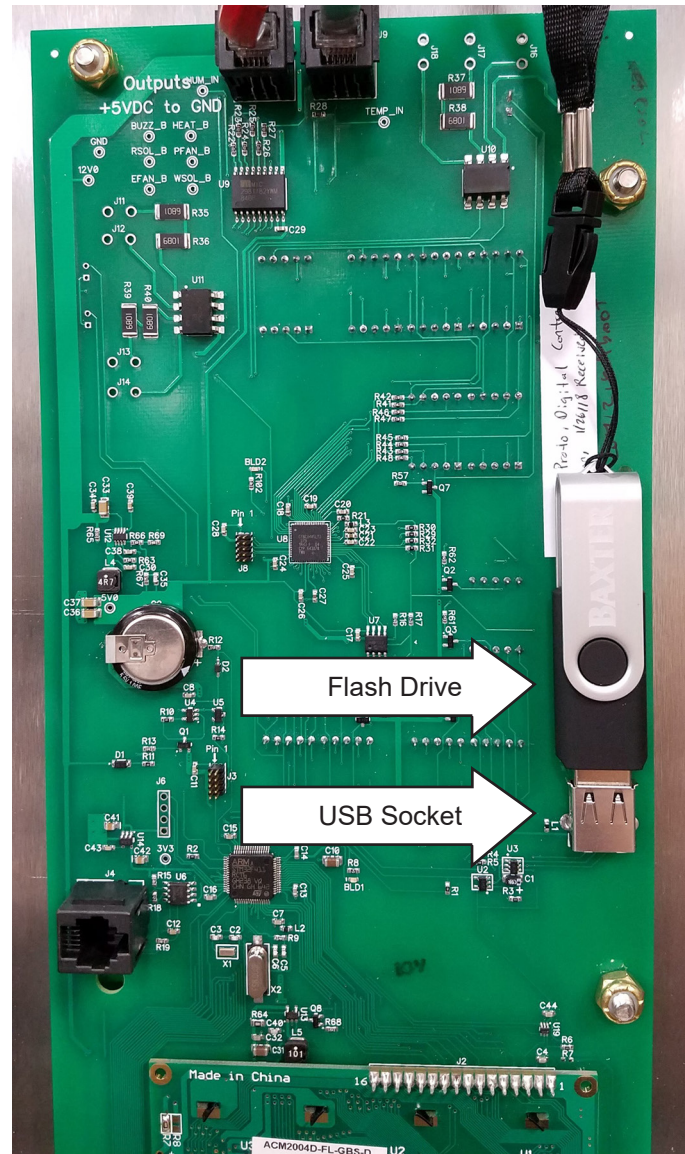

Fig. 15
3. Insert the flash drive into the proofer's USB socket (Fig. 15).